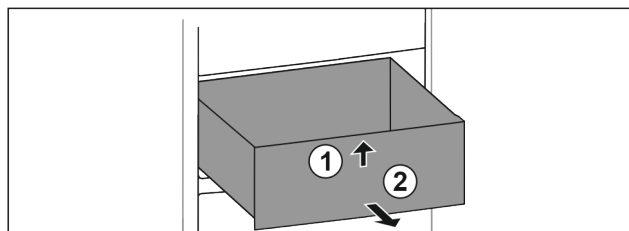

Fig. 95
- Lift up drawer at the front. Fig. 95 (1)
- Remove drawer to the front. Fig. 95 (2)